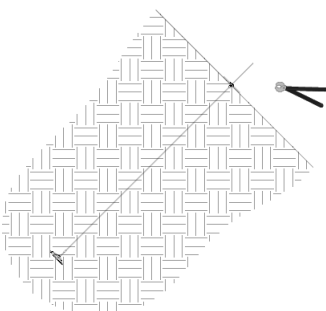
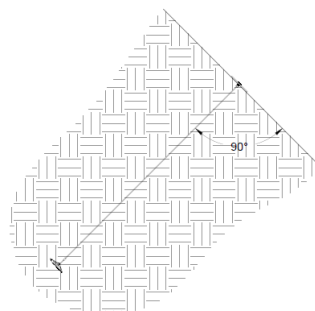

Figure 21: Trim Extra Cable Flush to Plate
Figure 22: Complete Anchor Installation
8. Once anchors have been load-locked, cut off the excess anchor tendon flush to the plate at the slope surface using wire cutters (Figure 21 and Figure 22).